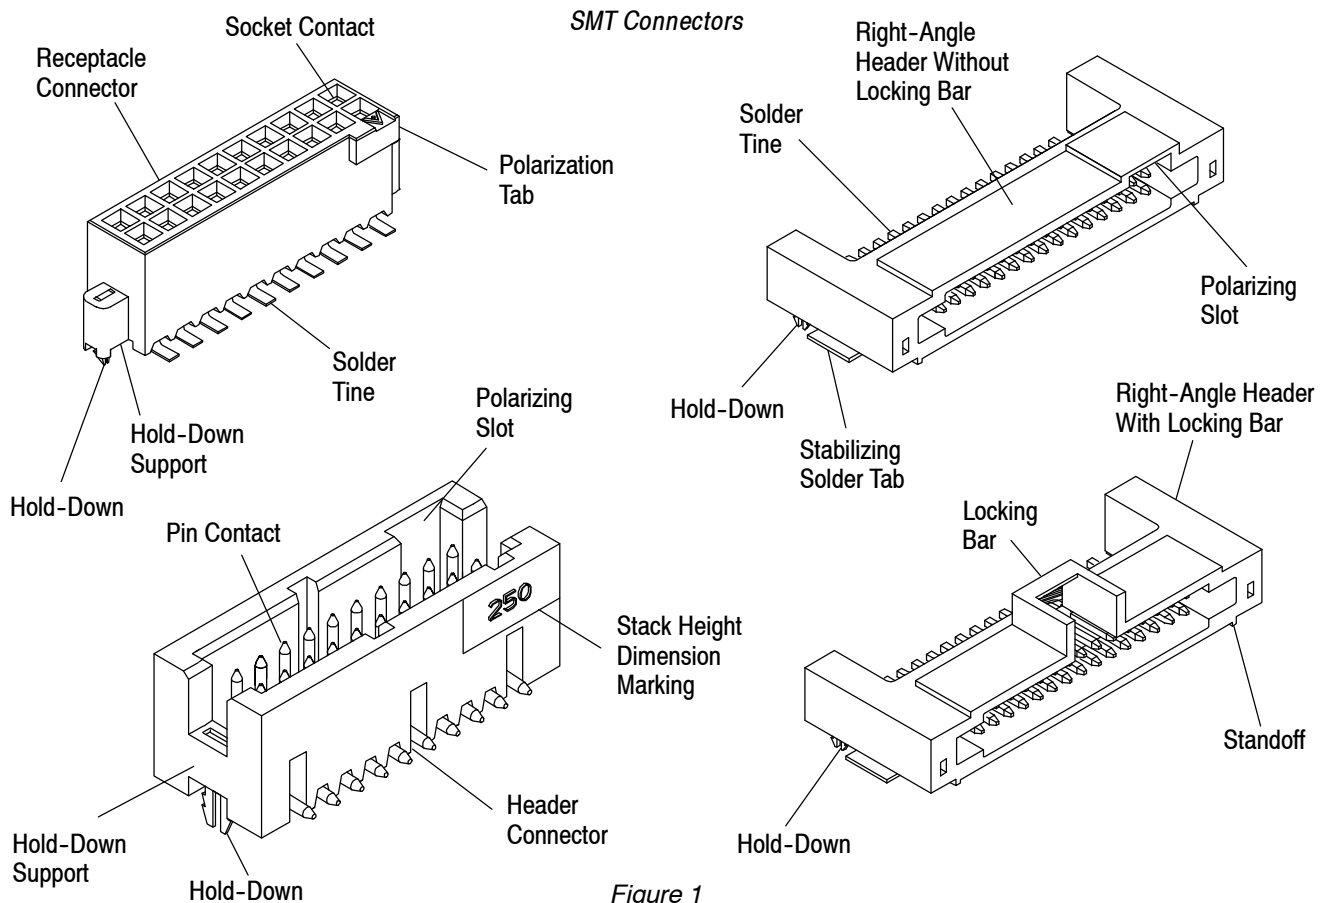

Figure 1
When corresponding with TE Connectivity (TE) Representatives, use the terminology provided in this specification to facilitate your inquiry for information. Basic terms and features of the connectors are provided in Figures 1 and 2.
The number 1 molded on the mating face of the housing provides circuit identification, and the number in the rectangular block molded on the side of the vertical connector housing provides the stacking dimension (in thousandths of an inch) between pc boards when two connectors are fully mated. See Figure 1.